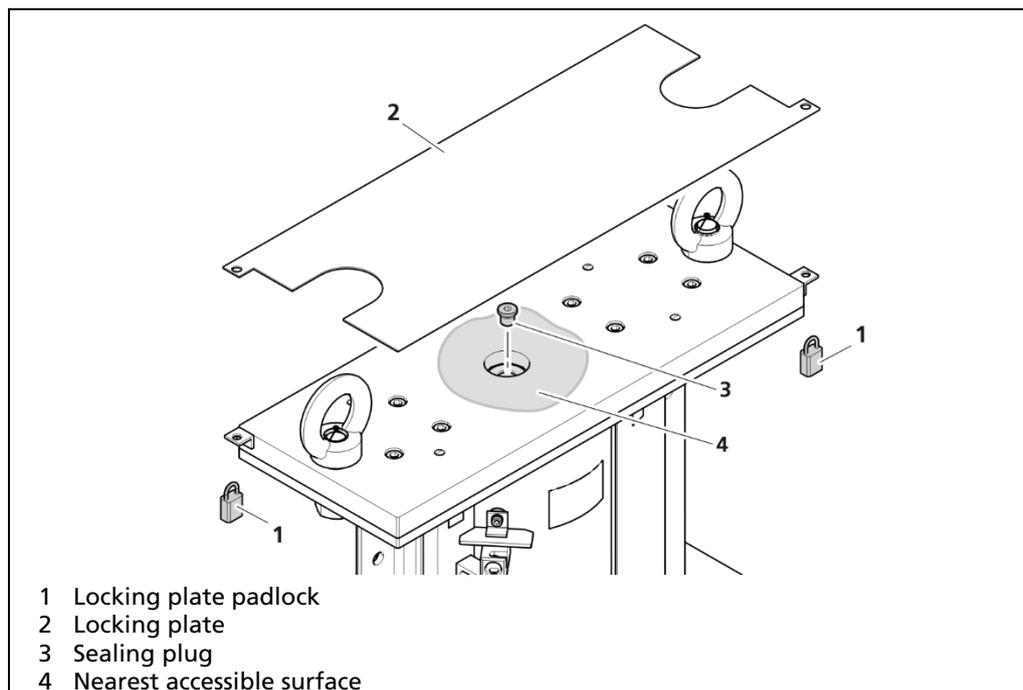

Fig. 11 Nearest accessible surface for leak test
- the area marked in grey in Fig. 11.
3. Swab the area underneath the sealing plug and the surrounding area highlighted in Fig. 11.